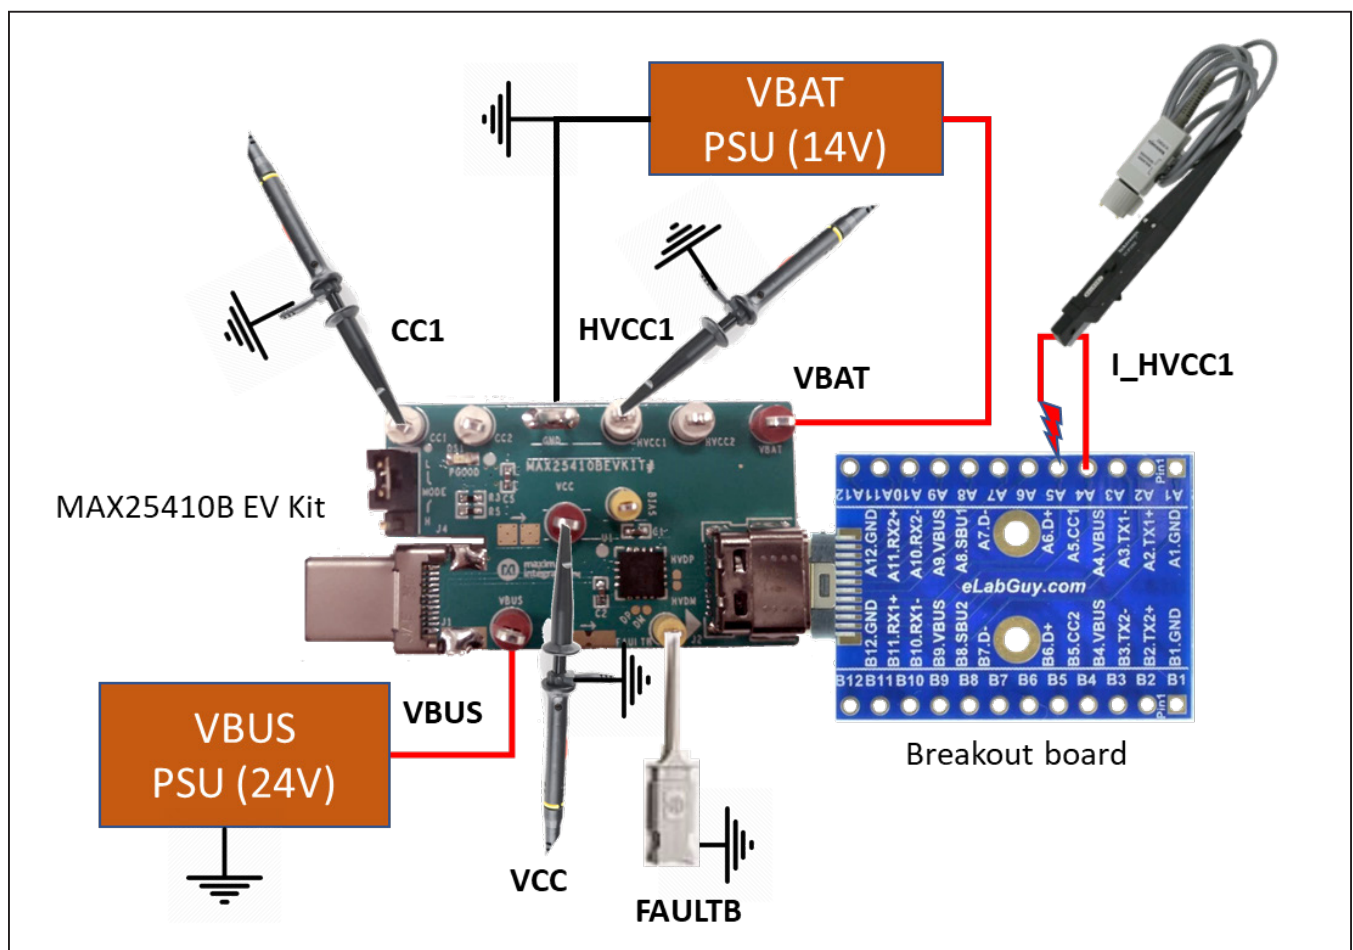

Figure 2. CC Short-to-VBUS Setup
- 4) Connect the oscilloscope probes as shown in Figure 2.